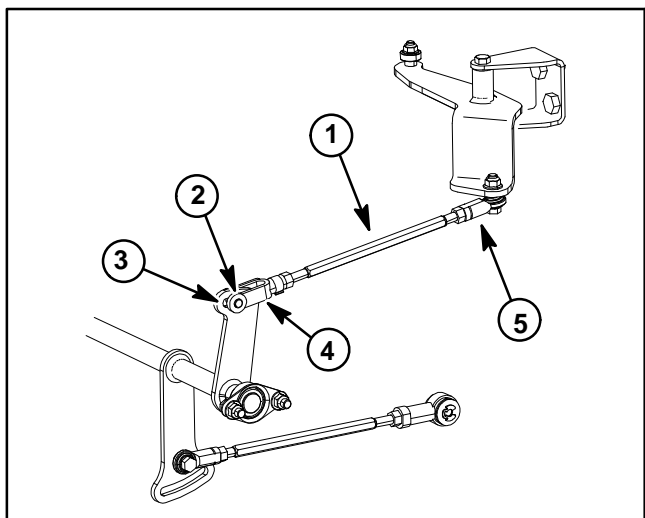

Figure 59
5. For correct operation of Automatic Speed Control (ASC), adjust the ASC control arm as follows (Fig. 59):